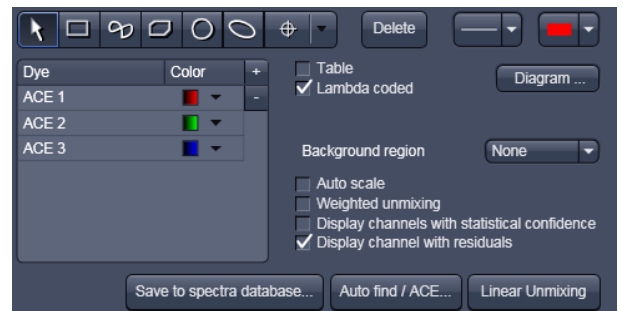

Fig. 567 Automatic Component Extraction function
- Click on the **Auto find / ACE...** button in the Unmixing View Option control tab (Fig. 567).
- When obtained spectra appear reasonable, unmix the data set by clicking the **Linear Unmixing** button (Fig. 567).